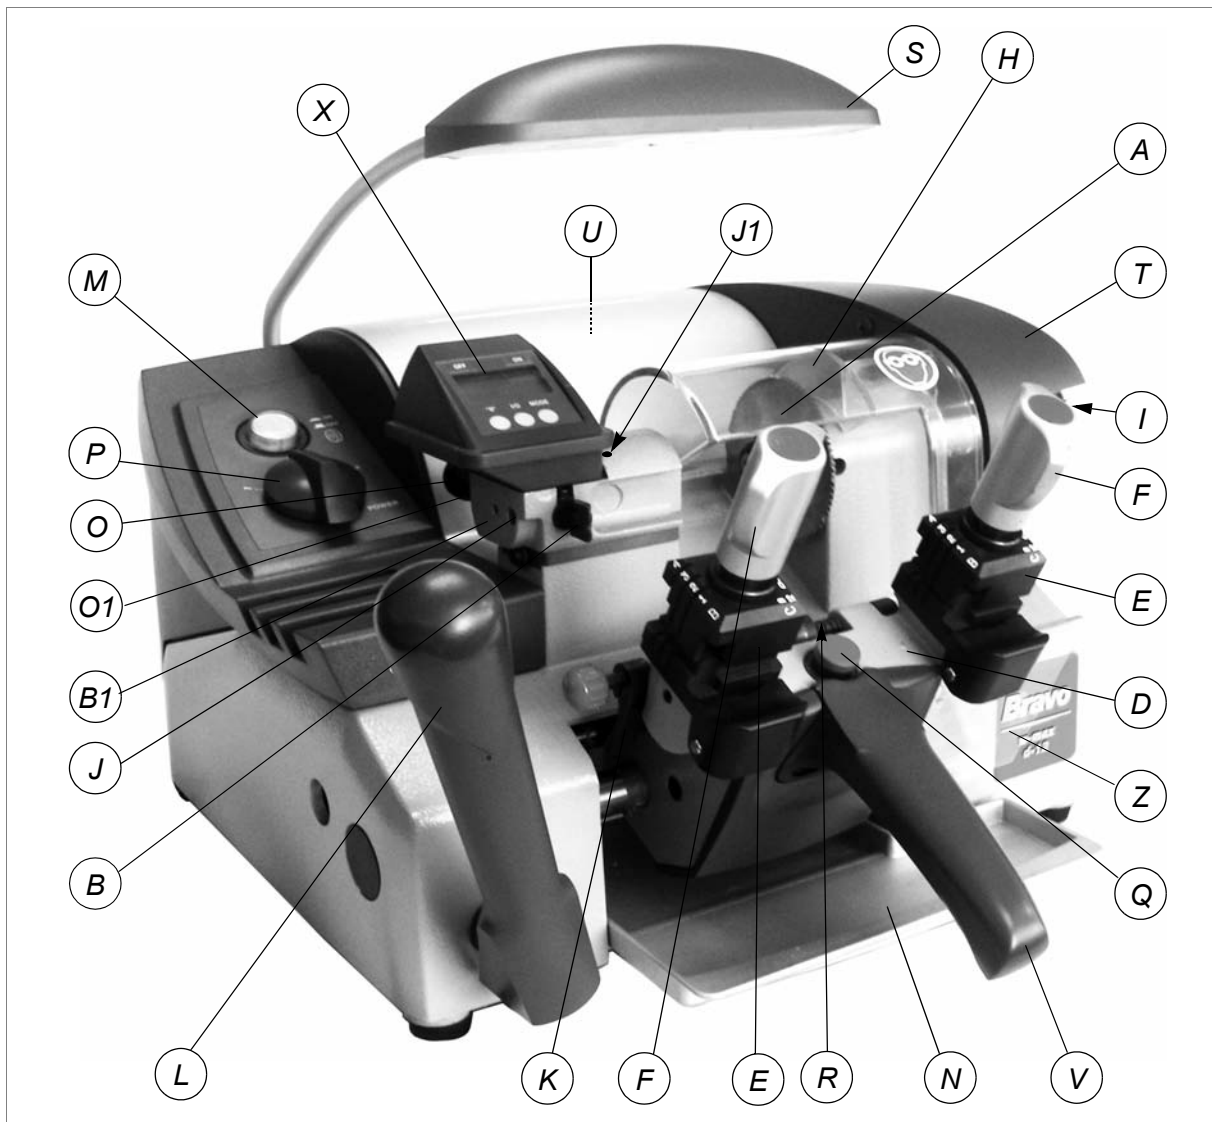

Fig. 5
The control panel with 2 controls is located on the left-hand side of the BRAVO D12 key-cutting machine: the motor start-up switch (P), which also acts as speed commutator and the push button for the brush (M) (fig. 5, page 6).